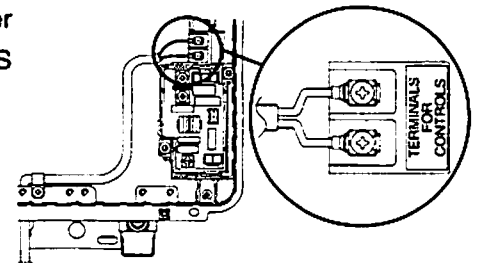

Fig.3: PCB Connection
3. Thread the controller cable through the access hole at the base of the water heater. Connect the spade connectors to the terminals labeled "TERMINALS FOR CONTROLS". (Fig.3)